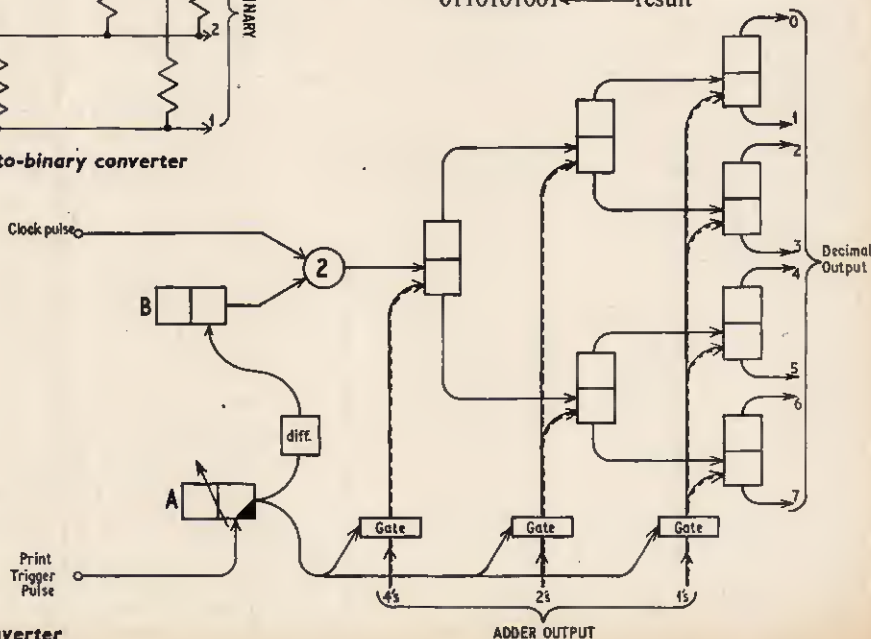

Fig. 2.9. A binary-to-decimal converter
Output converters are rather more complex: these take a binary input and produce a decimal output. One experimental type is given in Fig. 2.9 and the mode of action is thus: the striated wires carry the output signals from the adder and these pass through gates to a series of bistables which are arranged to act as gated amplifiers. The timing unit of the last section of the adding chain produces an output pulse which initiates printing by setting flip-flop (A). This opens the adder output gates and the appropriate bistables are set. As it flops back to its stable state it triggers bistable (B) via a differentiator, this bistable is AND-gated with the main clock pulse line, so clock pulses now enter the decoder proper through the AND and leave at one of the eight outputs. Which output this is depends on which bistables were set and this, of course, is a property of the adder output. The decimal output wires can be made to operate display lights or type out the number, as required.